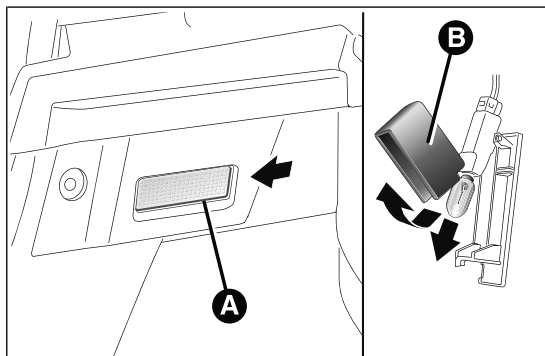
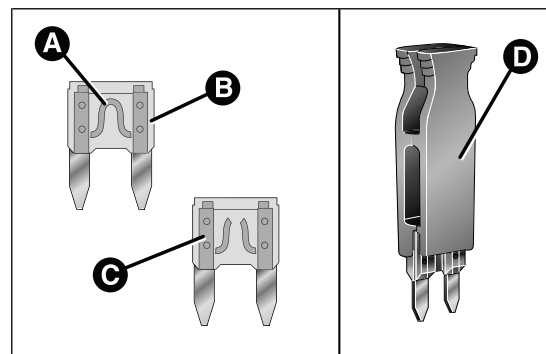

fig. 138
fig. 139
- ❑ operate in the point shown by the arrow and remove the roof light A fig. 138;
- ❑ open the flap C fig. 139 and replace the bulb B releasing it from the side contacts;
- ❑ Insert the new bulb B fig. 139 and make sure that it is correctly clamped between the contacts;
- ❑ reclose the flap C fig. 139 and fix the roof light A fig. 138 in its housing making sure that it is locked.